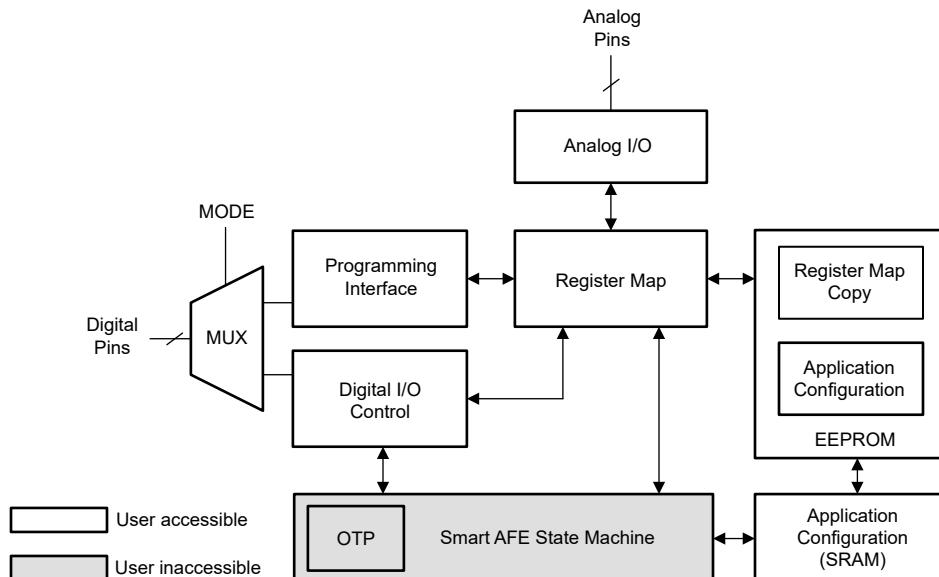

図 7-4. Smart AFE Architecture
The AFEx39xx feature a programmable state machine supporting arithmetic, logic, and timing operations, as shown in 図 7-4. This state machine has been pre-programmed as a proportional-integral (PI) controller allowing the user to program the coefficients and input-output parameters. The details of the PI controller are discussed in セクション 7.4.6. The user configurations are stored in the NVM and the state machine can be operated in standalone mode without interfacing to a processor (*processor-less* operation)